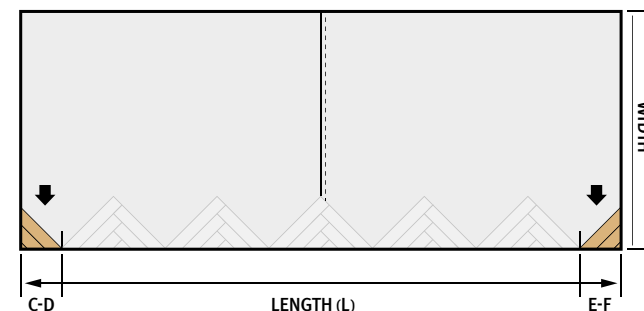

Figure 34
- ▶ Now cut the distances C-D and E-F from the remaining triangle(s), and position them as shown in (Fig 34).